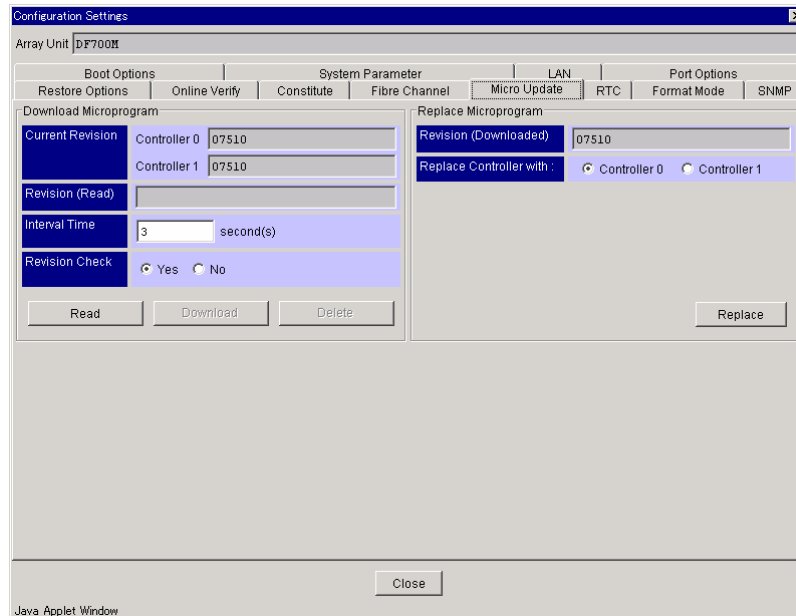

Figure 9.40 Configuration Settings Window – Microprogram
3. Click the **Micro Update** tab. See Figure 9.40.